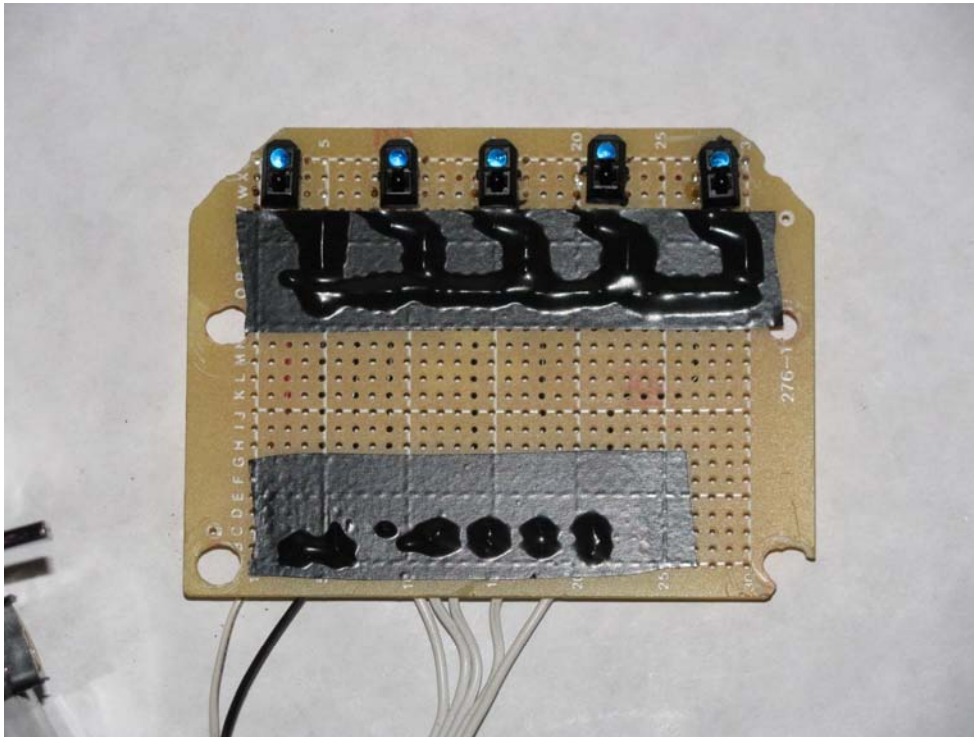

Figure 4-15. Electrical tape to cover the Ground and signal wires from shorting out on the tin frame
9. Lastly, I put some black electrical tape over the exposed wires on the front of the board to keep from shorting anything out when face down in the metal tin frame (see Figure 4-15).